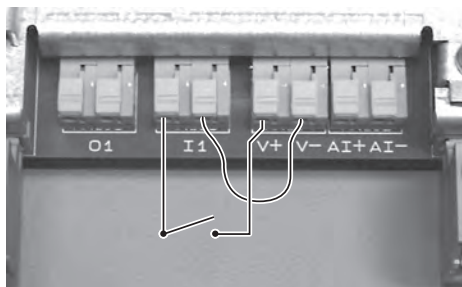

Figure 6-6: External Input using 24VDC and power from terminals V+/V-.
**External Input (4 parameters** – see Figures 6-6 through 6-9, Page 29).
**Relay Output (3 Settings—See Figures 6-6 through 6-9, page 29):**
The unique design of the PENTEK INTELLIDRIVE allows this input to be 24V DC or 24-230V AC. Power can be supplied (24VDC) from terminals V+ and V- to the right of I/O terminal I1. See Figures 6-6 and 6-7.